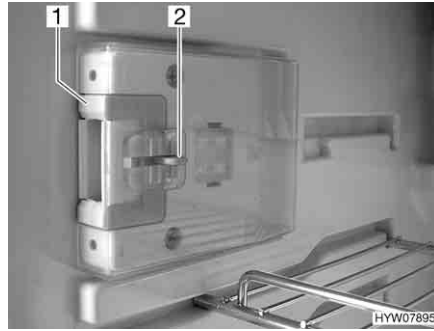
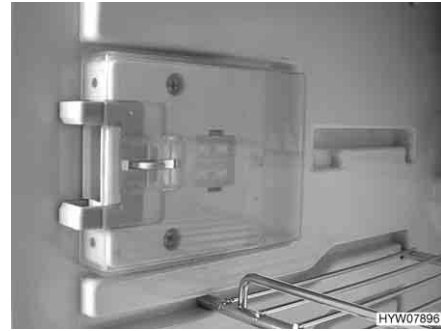

Fig. 126 Locking device in normal position
Fig. 127 Locking device in ventilation position
- Press down the unlocking device (Fig. 126,2).
- Push locking device (Fig. 126,1) forwards (Fig. 127).